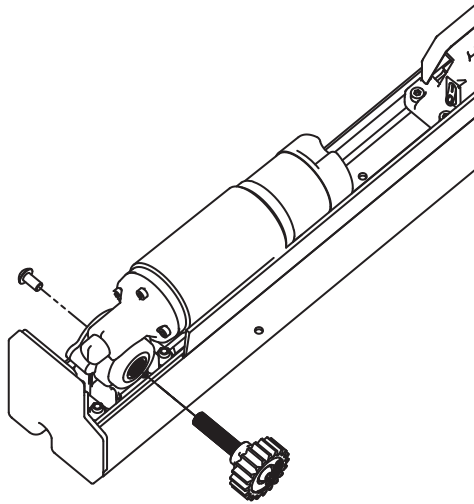

Figure 10: Remove the Motor Wheel
2. Use the hex key provided to remove the bolt opposite the motor wheel. Slide out the motor wheel. See Fig 10.